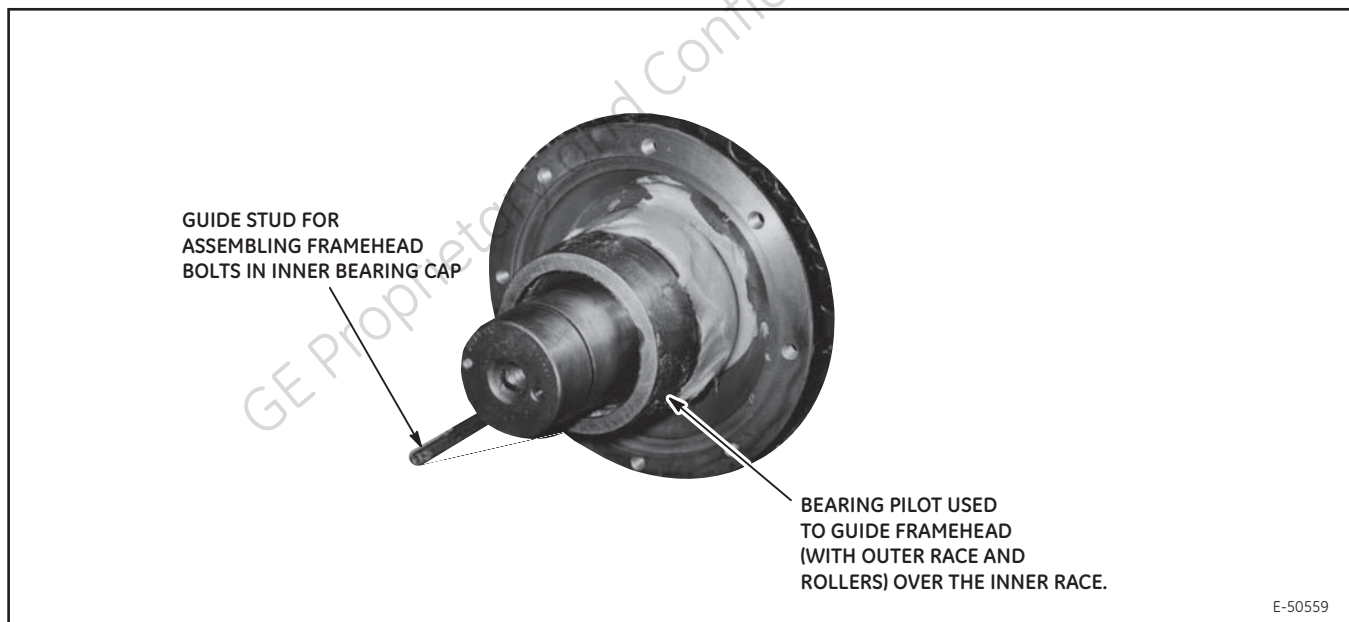

Figure 11. DE Bearing pilot and Guide Studs Installed.
- b. Install the DE bearing pilot tool (8849499P7), Figure 37 , on the rotor shaft as shown in Figure 11 .
- c. Thread a guide stud (.625-11 X 10) in the inner bear cap (12) as shown in Figure 11 .